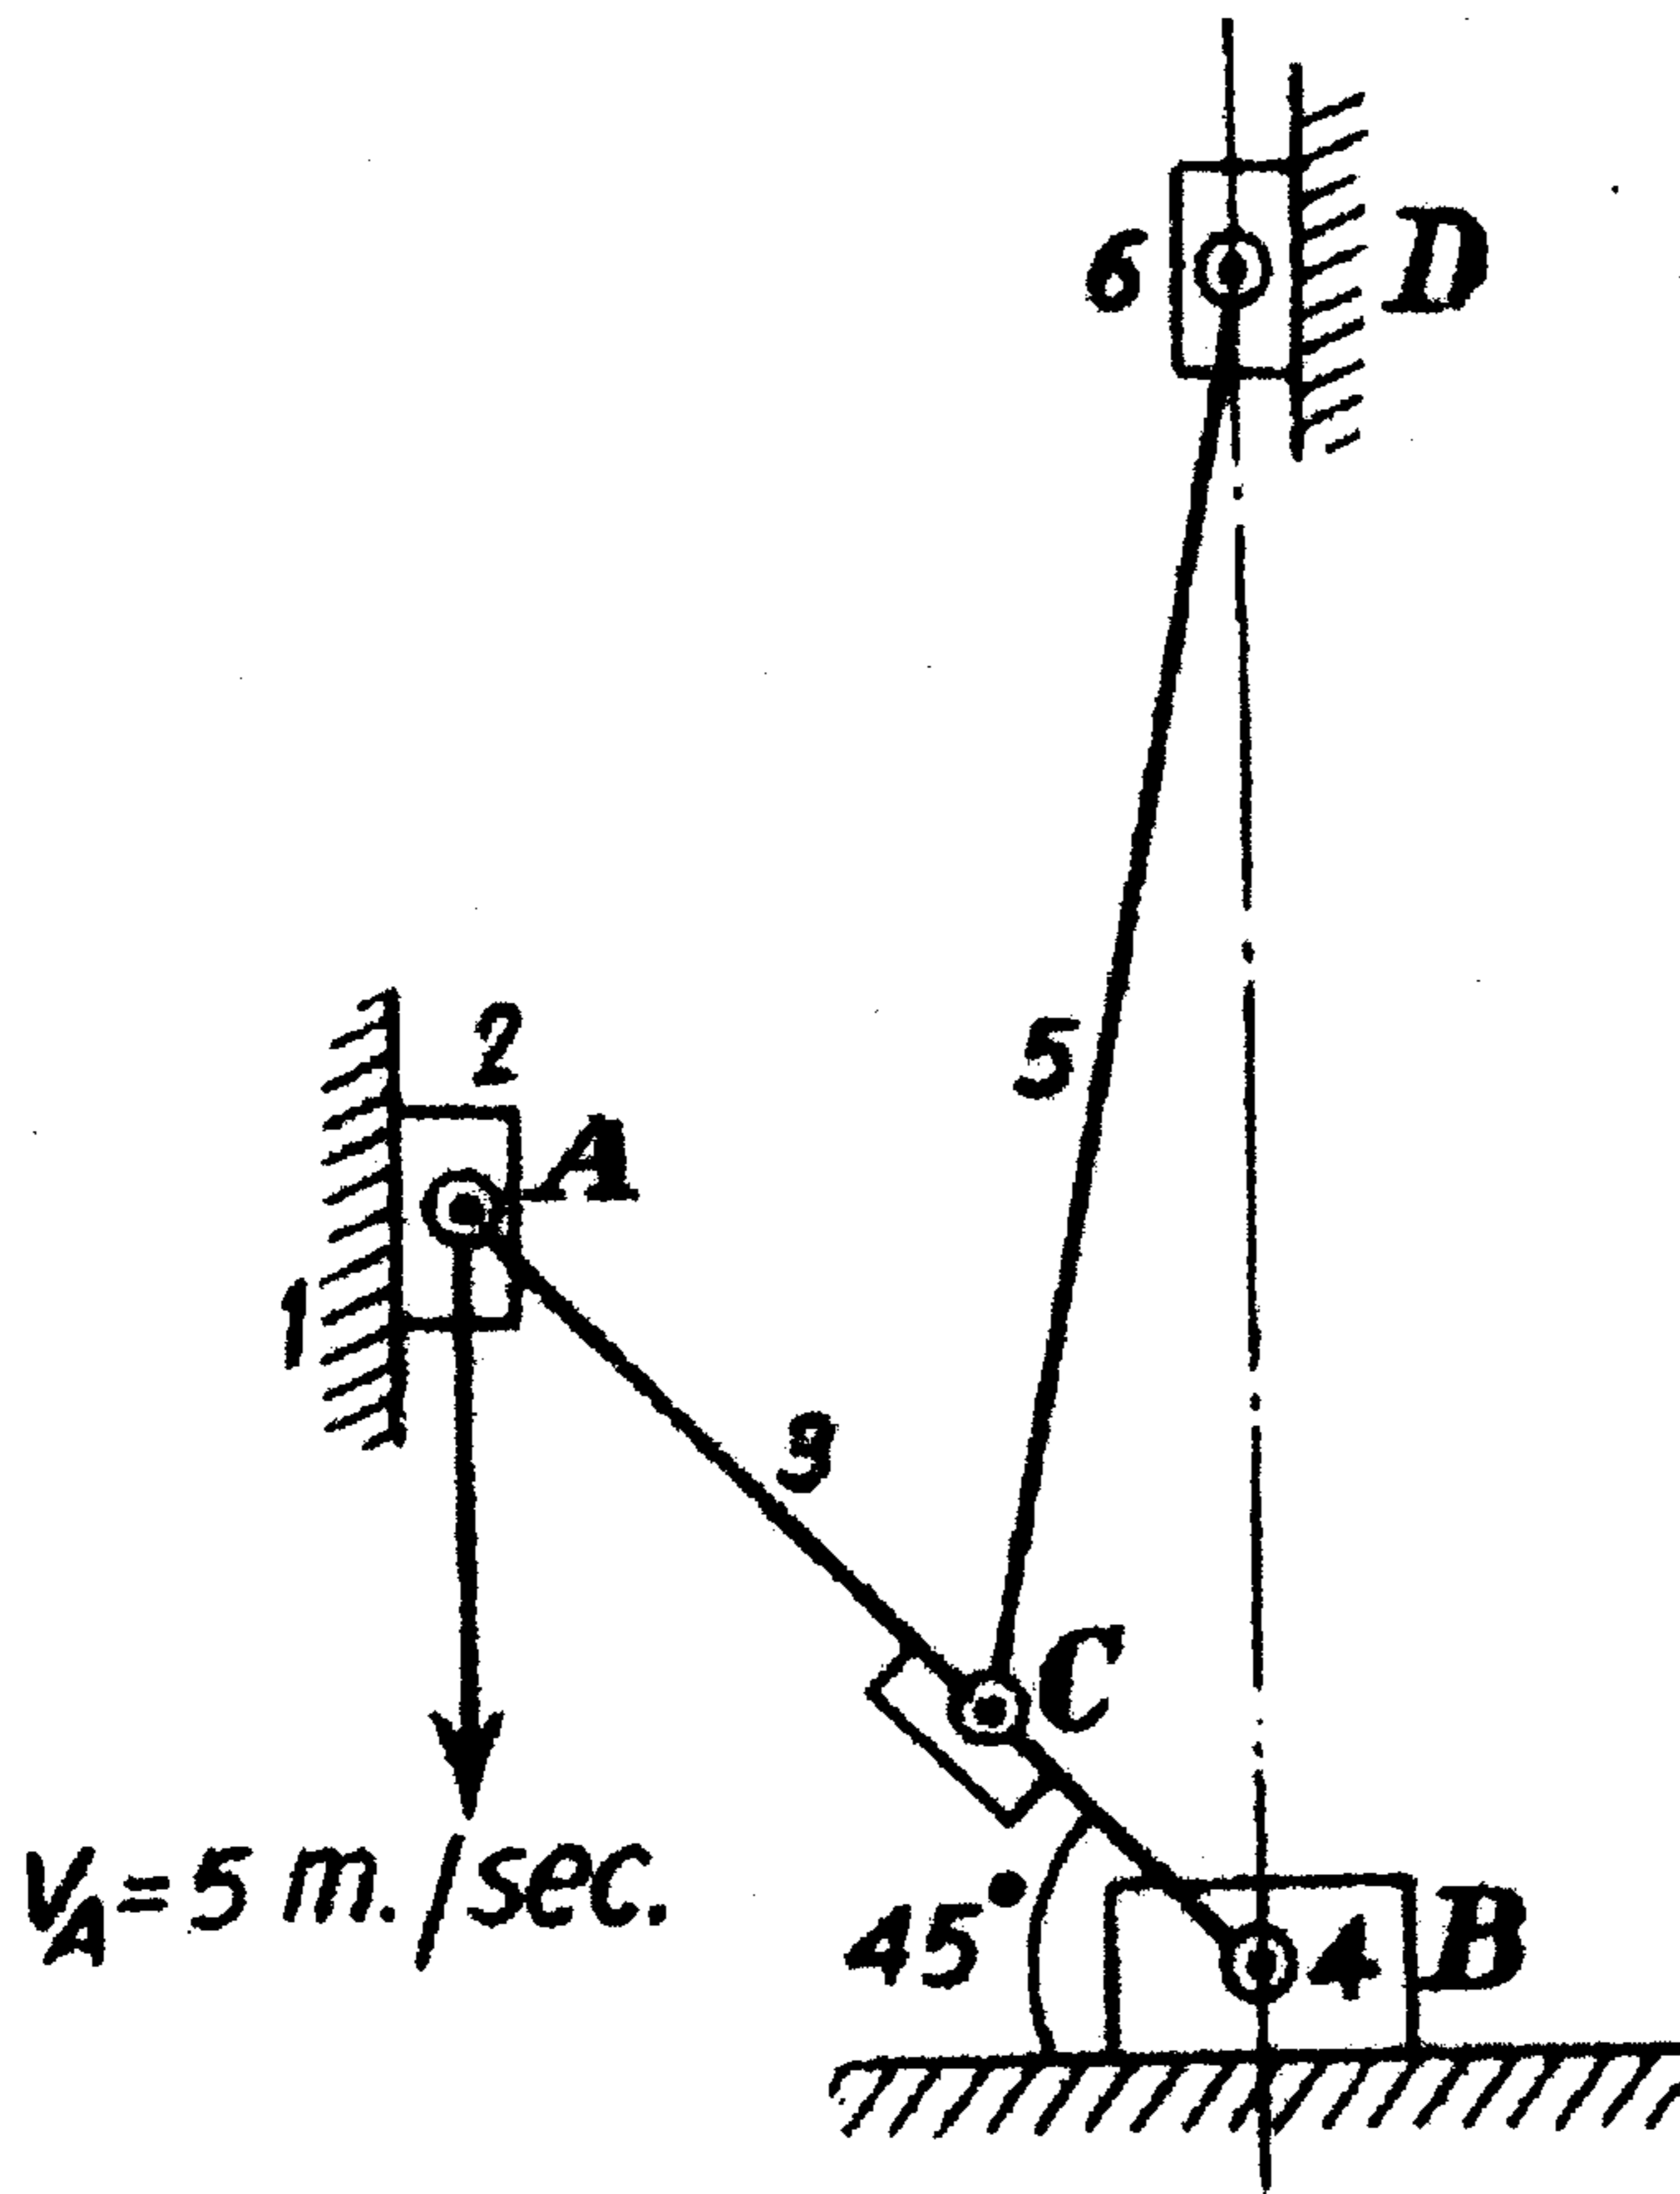

Figure 3 Slider Mechanism
14. In the mechanism shown in Fig. 3, the slider moves uniformly vertically downwards at 5 m/sec. The various dimensions of the link are  $AB = 15 \text{ cm}$ ,  $AC = 10 \text{ cm}$ ,  $CD = 20 \text{ cm}$ .